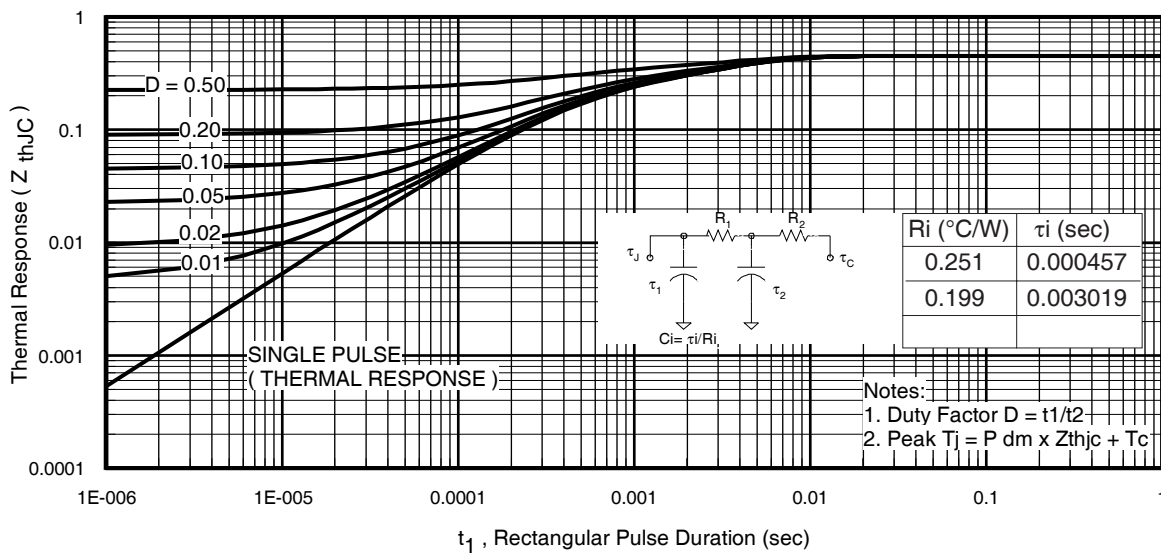

Fig 11. Maximum Effective Transient Thermal Impedance, Junction-to-Case
- ① Repetitive rating; pulse width limited by max. junction temperature. (See fig. 11).
- ② Limited by T_{Jmax} ; starting $T_J = 25^\circ\text{C}$, $L = 0.11\text{mH}$, $R_G = 25\Omega$, $I_{AS} = 75A$, $V_{GS} = 10V$.
$Z_{thJC}(D, t_{av})$ = Transient thermal resistance, see figure 11)